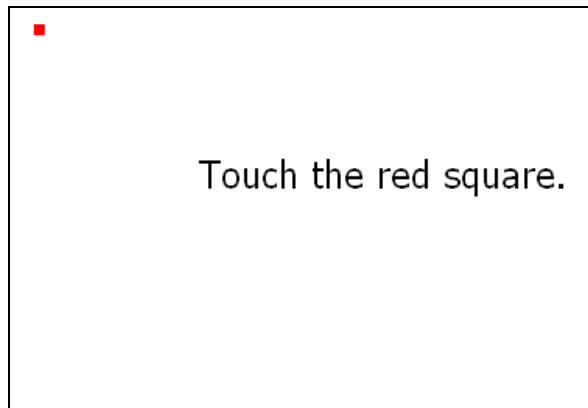

Figure 6-30: Calibration Screen
Step 9: The calibration screen in is shown. See **Figure 6-30**.